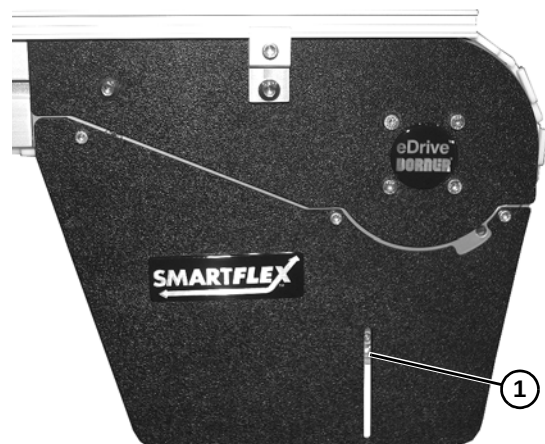

Figure 55
Before inserting belt rod to connect belt ends, be certain that the slack on belt is showing in slotted area (**Figure 55, item 1**) on convey or drive end.